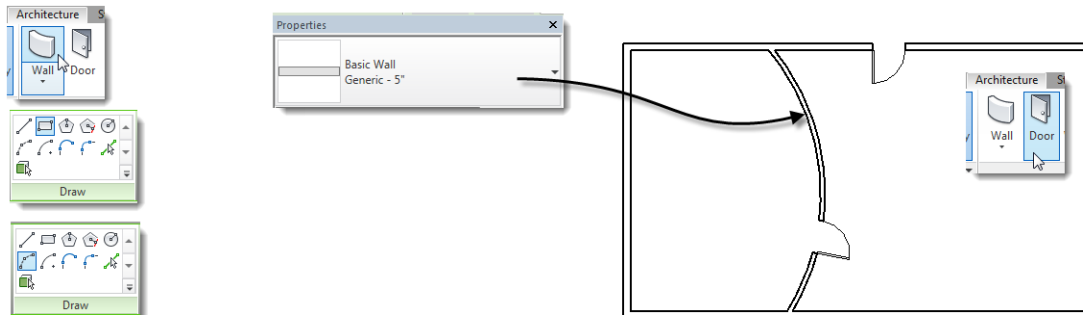

FIGURE 3 – CREATE SOME WALLS AND DOORS
5. Click the Door tool next and add a few doors (see Figure 3).